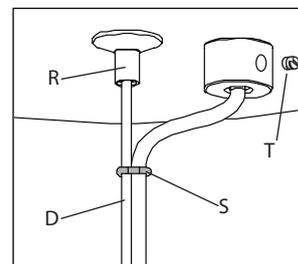

Figure 4
8. Install the cables of Section 3 into the cable grippers from step 6. Then connect Section 3 to suspended Section 2 by connecting the plug (J), sliding bar over wing (K), securing in place with countersunk screws (L).
9. Insert remaining End sections by connecting the plug (J), sliding bar over wing (K), securing in place with countersunk screws (L).
10. Determine the height at which the fixture is to be hung. Insert the steel cable (D) through the lock (R) and adjust to the desired length. To shorten the cable, push the cable up and it will be locked automatically. To lengthen the cable, lift up on the cable and push up on the lock. While keeping the lock depressed, lower the cable to the desired length. Release the lock to set.
11. Use the screwdriver to loosen the slotted set screw (T). Adjust height of cord. Tighten the set screw to set. Reserve extra cord in the canopy (G).
12. Slide cord rings (S) as close to canopy and fixture as possible (Figure 4).
13. Install trim (U) by threading it to fixture (V).
5. Twist together the outer braided conductor to form the negative wire of the fixture, then strip 5/8" off the end of the inner stranded conductor to form the positive wire of the fixture (Fig. 4).